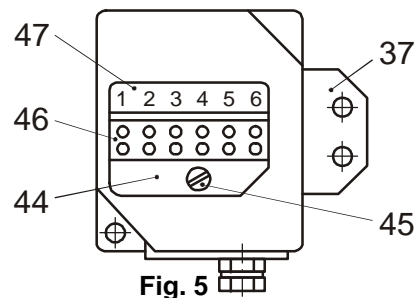

Fig. 5
- 1.b Screw the base plate (44) into the terminal box base (39) with the countersunk screws (45). Mount 2, 4 or 6-pole terminals (46) using cap screws (48) onto the base plate (44). Adhere the terminal description (47) to the base plate (44). Please observe the position of the terminal description acc. Fig.5.
3. Screw the holding bracket (37) with the cap screws (49) to the rear side of the brake.
4. Re-tighten the brake coil cable, tighten the hexagon nut (42).
6. Close the terminal box. Be careful with the sealing ring (51) and sealing washer (53).